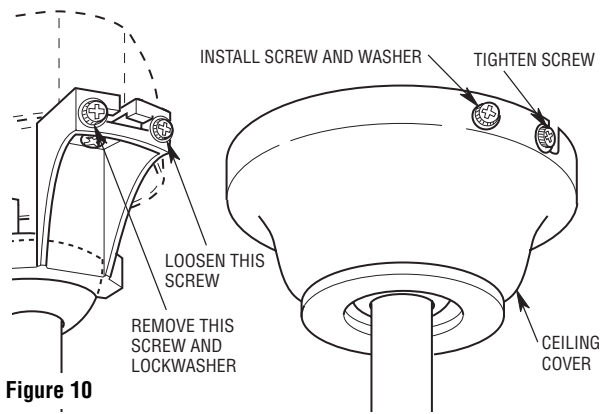

Figure 10
- 1. Remove the left screw and lockwasher from each side of the hanger bracket (Figure 10) and loosen the other two screws.
- 2. Lift the ceiling cover up to the hanger bracket. Engage the slots in the ceiling cover with the loosened screws in the bracket and turn the cover counterclockwise (Figure 10). Be sure that the lockwashers are between the screw heads and the ceiling cover.